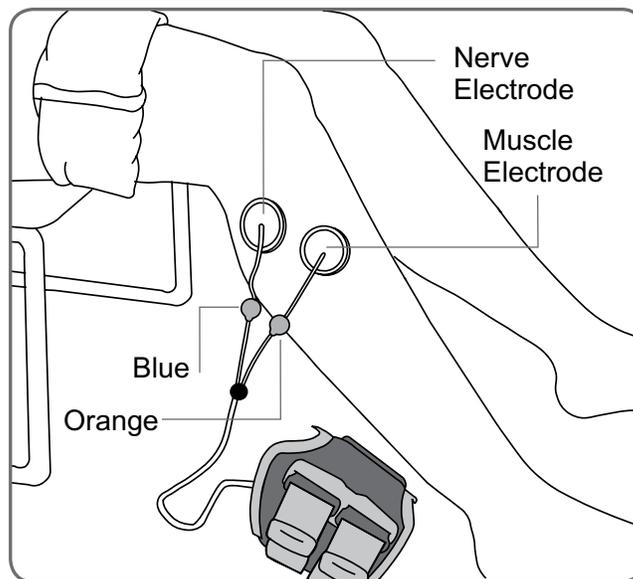

Figure 10-4: Fitting cable connected.
3. Place the L300 FS Cuff next to the patient's foot. See Figure 10-4.